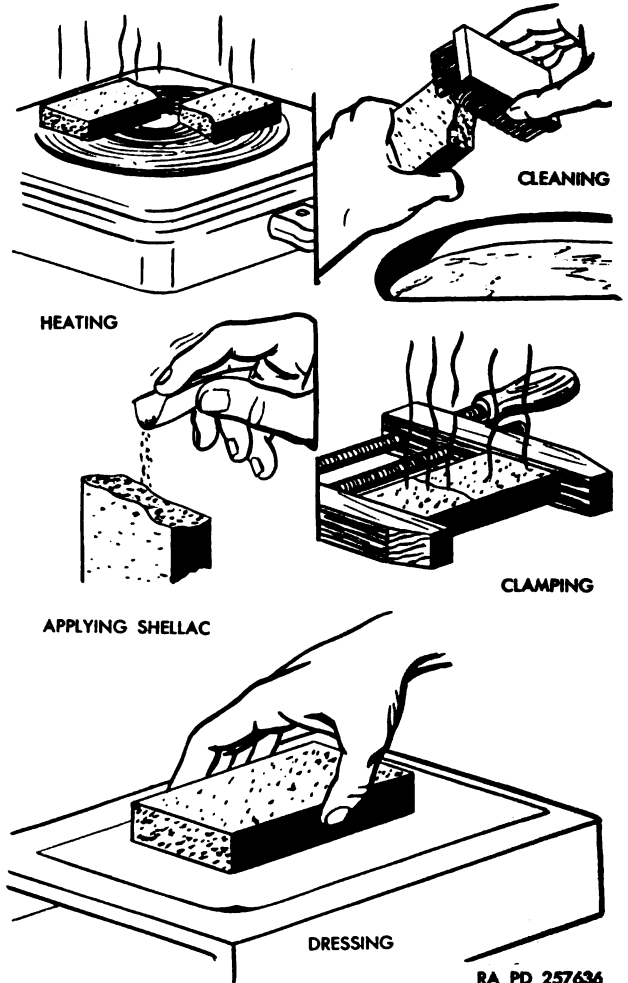

Figure 166. Repairing broken oilstone.
c. Repairing. Oilstones are easily broken if they are not handled carefully. Repair a broken oilstone in the manner described in (1) through (6) below. Refer to figure 166 for repair procedure.
- (1) Heat the broken pieces on a hot plate or in any other satisfactory manner to drive all oil from inside the stone.
- (2) Scrub the broken edges with a dry-cleaning solvent to remove gum and dirt.
- (3) Dust the broken edges thickly with flaked or ground orange shellac. Carefully work shellac into all cracks and openings.
- (4) Press the broken pieces together and reheat to melt the shellac.
- (5) Clamp pieces together until cooled.
- (6) Dress the stone until the joint is smooth and true.